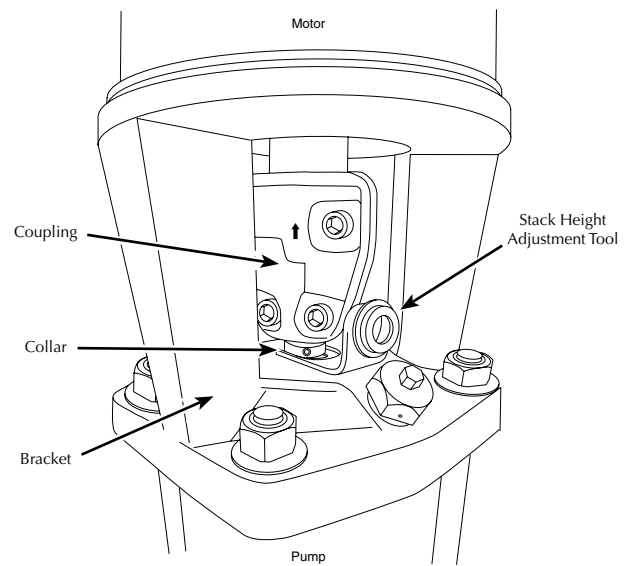

Figure 11B - Using the stack height adjusting tool
13. Raise the height of the pump shaft by inserting the stack height adjustment tool (see Figure 11B) below the collar.